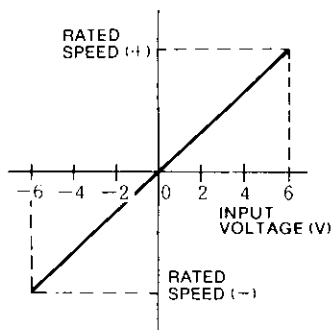
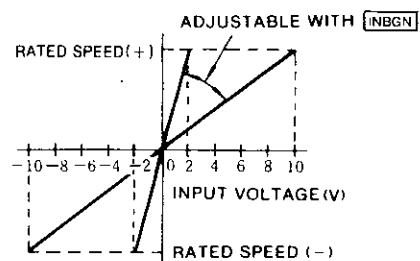

Fig. 4.7 Speed-Input Voltage Characteristics
Fig. 4.8 Speed-Input Voltage Characteristics when Auxiliary Input Terminals 1CN-⑭ and ⑮ are used.
Fig. 4.7 shows motor speed and input voltage curve when speed reference input terminals 1CN-⑫ and ⑬ are used. With auxiliary input terminals, 1CN-⑭ and ⑮, motor speed can be set to the rating by adjusting **INBGN** user constant as long as input voltage is within  $\pm 2\text{V}$  to  $\pm 10\text{V}$ . See Fig. 4.8.